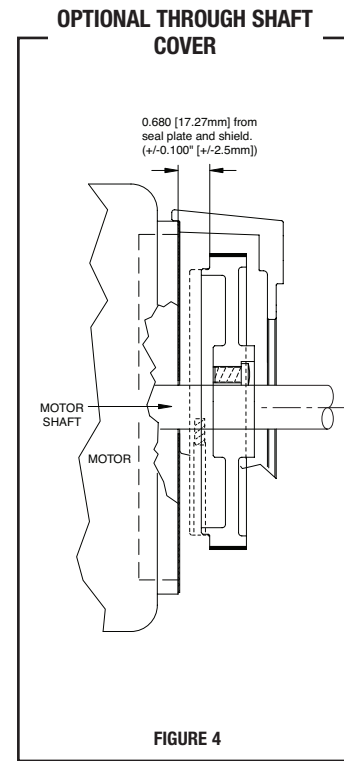

FIGURE 4
- The through-shaft must project at least 1.58" [40.1mm] from the accessory mounting face. If it is greater than 2" [50.80mm] long, use the outboard through-shaft cover, detailed in Figure 4.